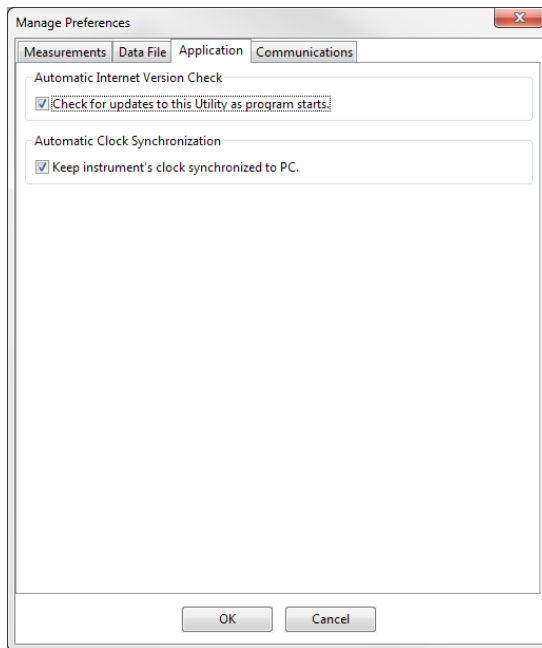

Figure 15 Application tab
- Application Tab (Figure 15):